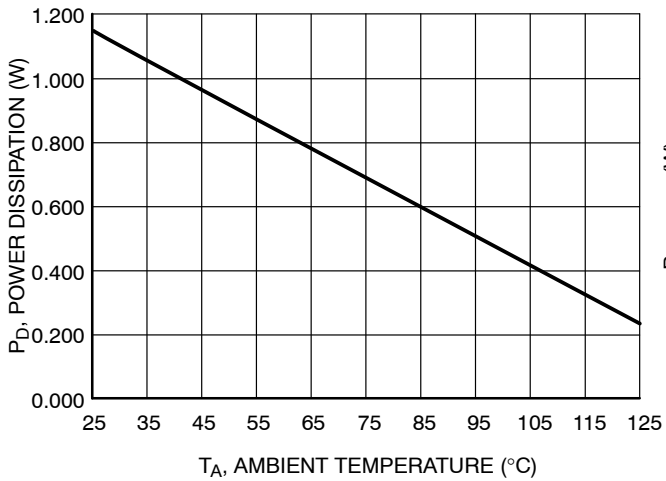

Figure 3. Total Power Dissipation ( $P_D$ ) vs. Ambient Temperature ( $T_A$ )
9. If  $P_{D\_total} > 1.13 \text{ W}$  (or derated value per Figure 3), then select the most appropriate recourse and repeat steps 1 through 8: